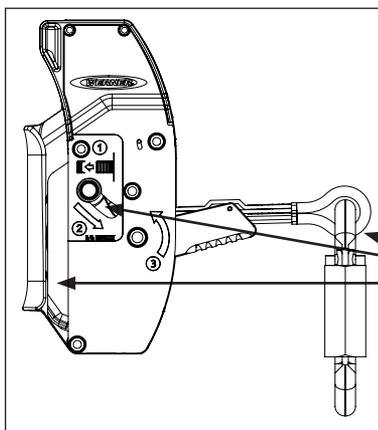

Fig. 3 Closed: Lever down, safety pin closed, cable channel closed.
4. Release the L213500. The safety pin will return to its original position and close the channel cover, capturing the cable. (Fig. 3)